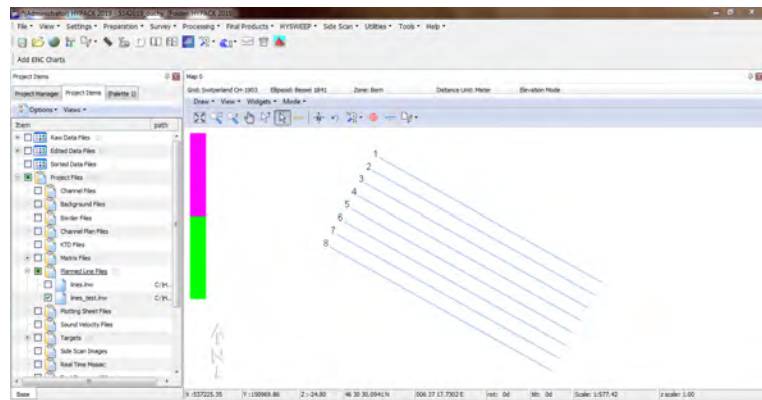

Figure 45: Offsets output; lines have all the same direction
- Click "OK" and save the edited lines (file-> save) **ATTENTION:** lines have the same direction (Figure 45)